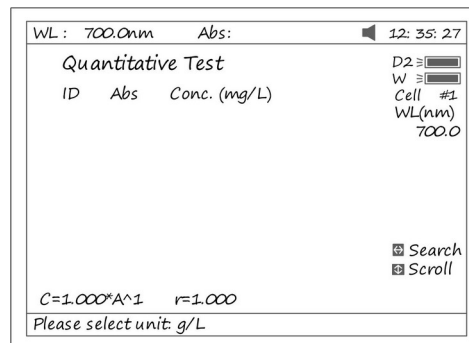

Fig 27
1. Press [F1] to select unit of concentration (Fig 27).